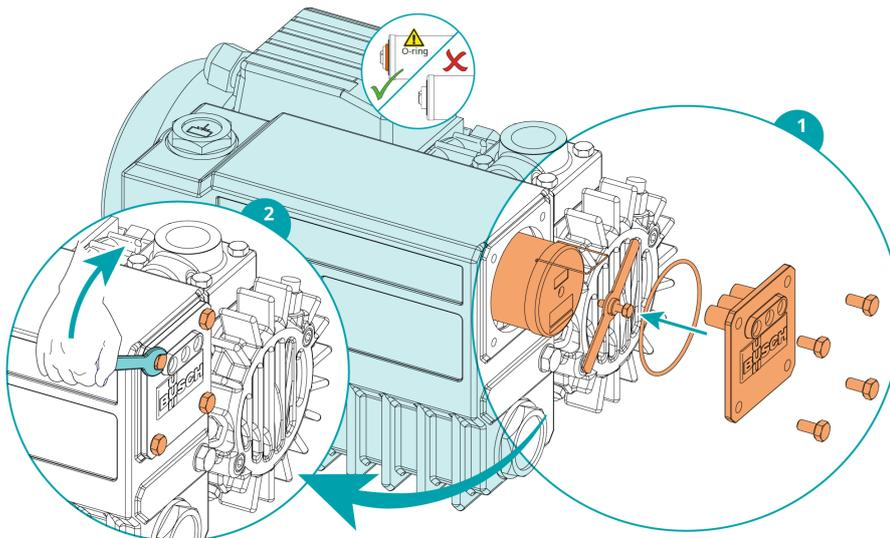

Fig. 34: Exhaust filter installation - illustration (source Busch Instruction no. R5 KB KC 0010-0016 E no. 0870169526)
2. To install the new filter follow the graphical instruction presented in the Fig. 34